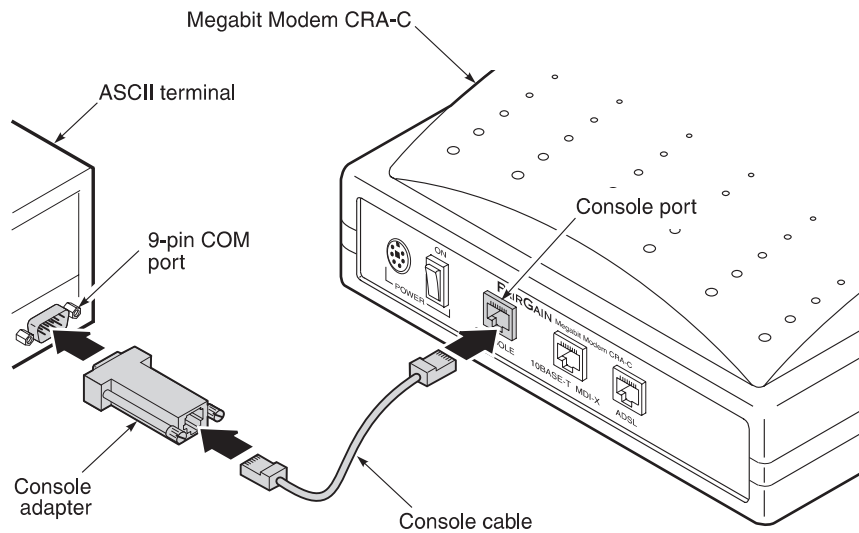

Figure 7. *Connecting to an ASCII Terminal*
- 1 Plug the console adapter into the standard 9-pin COM port on the ASCII terminal and tighten the captive screws until they are snug (Figure 7). (Skip this step if the ASCII terminal has an RJ-48 jack.)